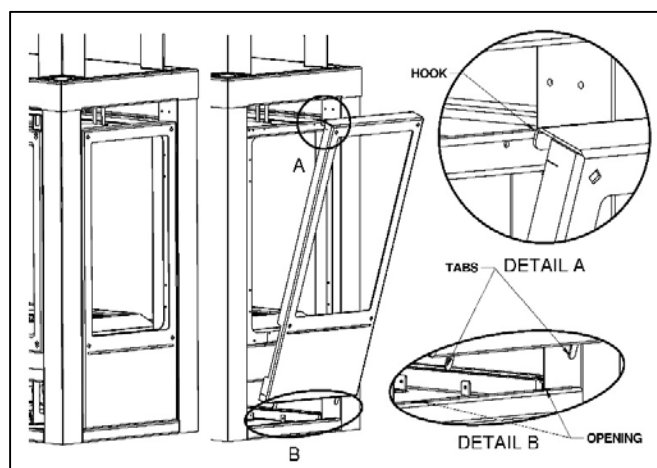

Figure 8.4.1
- Start by inserting the tabs of the window frame in the opening located at the bottom of the appliance (Figure 8.4.1.Detail B)
- Tilt the top of the window frame and slightly lift it (without removing the bottom tabs from their slots) to positioning the hook (Figure 8.4.1 Detail A) in place.
- Raise vertically to disengage the hook (Figure 8.4.1 Detail A).
- Disengage the bottom tabs. (Figure 8.4.1 Detail B)